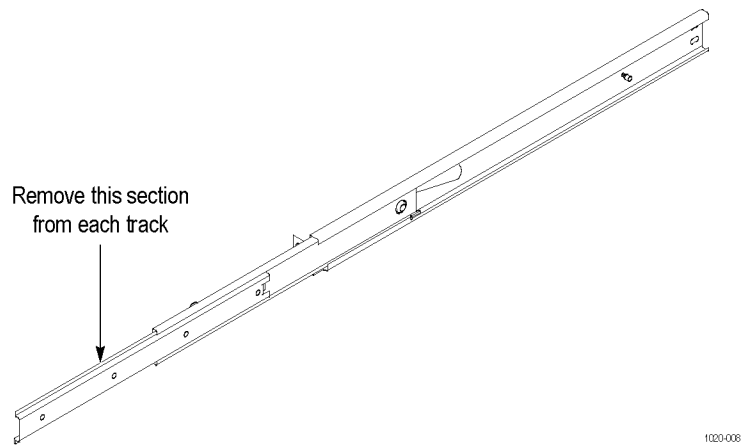

Figure 10: Preparing the tracks for mounting
1. Remove the front section of each of the two tracks. (See Figure 10.)